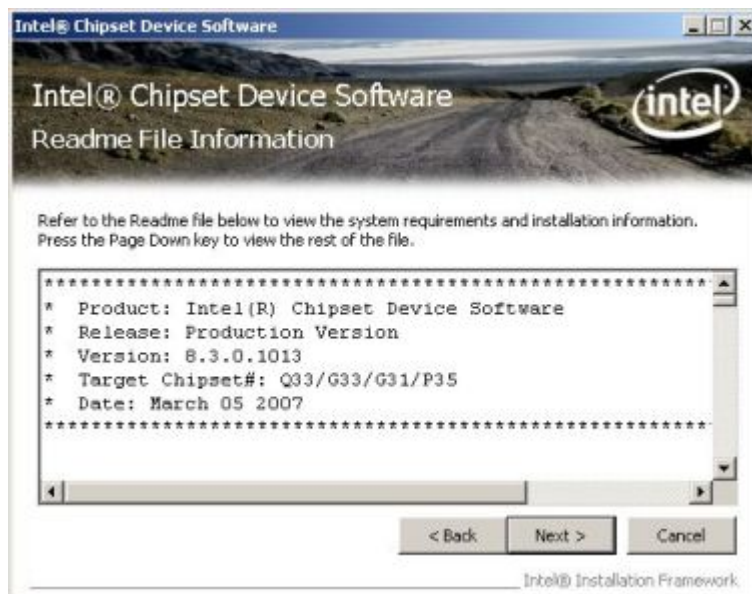

Figure 7-8: Readme File
Step 12: The **Readme** file in **Figure 7-8** appears.